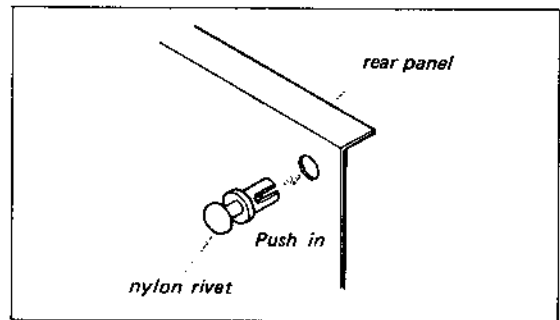

Fig. 2-14.
3. To reinstall the rivet, insert the flared part into the opening first, and then push the head as far as it goes as shown in Fig. 2-14.